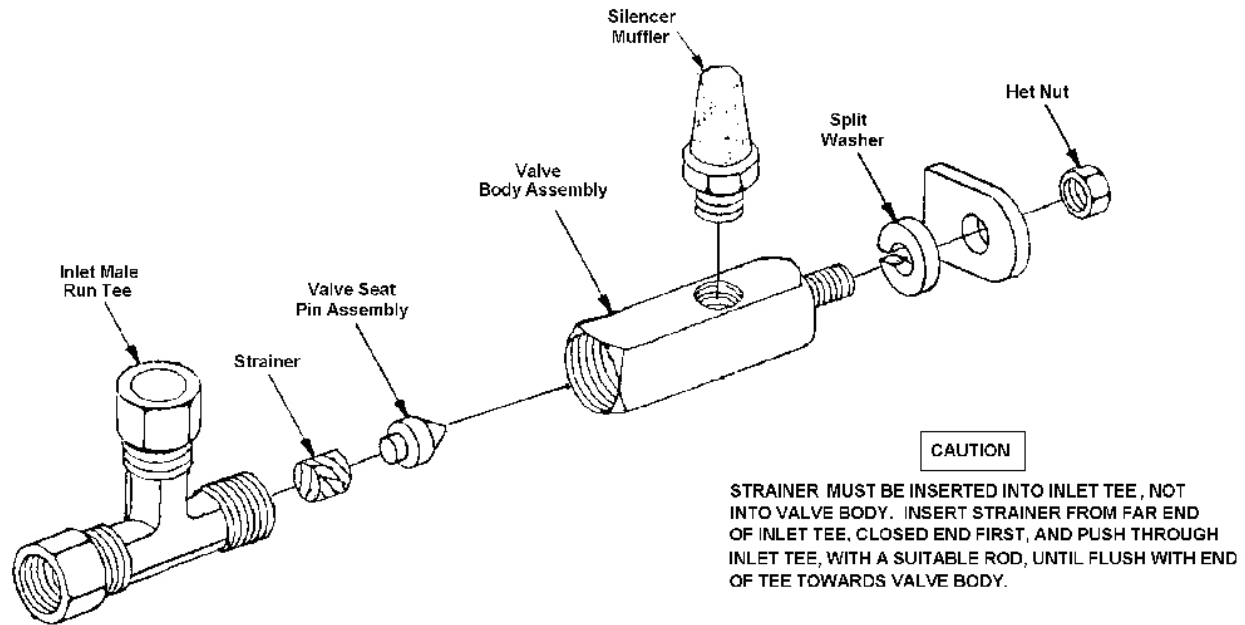

Figure 4-5. Pilot-operated pressure switch unloader valve.
b. **Disassemble and Repair the Pilot-Operated Pressure Switch Unloader Valve.** You can disassemble, clean, and repair the unloader valve as required. Refer to figure 4-5 and use the following procedures.